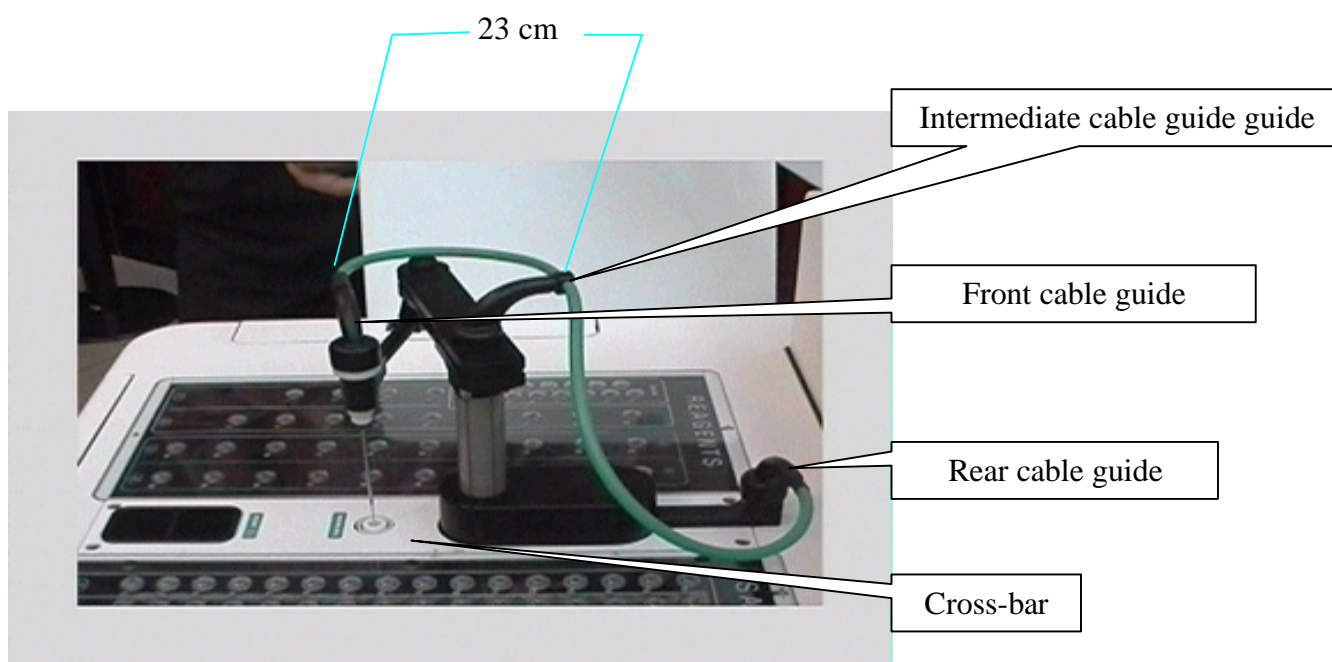

Fig. 2
4. Unscrew the four cross bar fastening screws. Remove the cross bar by slipping out the rear Pre-heater guide support (Fig.2).
**Note 1:** the length of the Pre-heater supply cable from the top of the external arm to the intermediate guide must be approximately 23 cm (Fig.2).